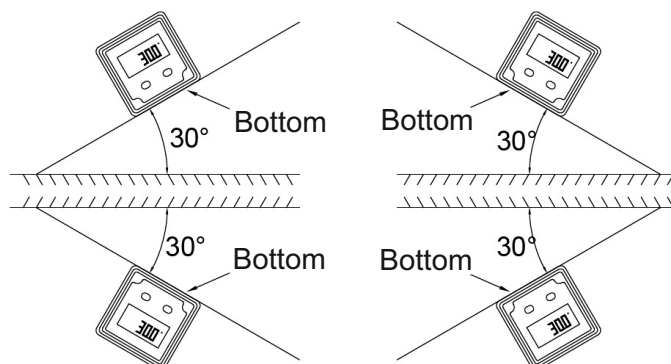

Fig.4
- » The device can be used in four directions. The display turns when the instrument is face up (Fig. 4).